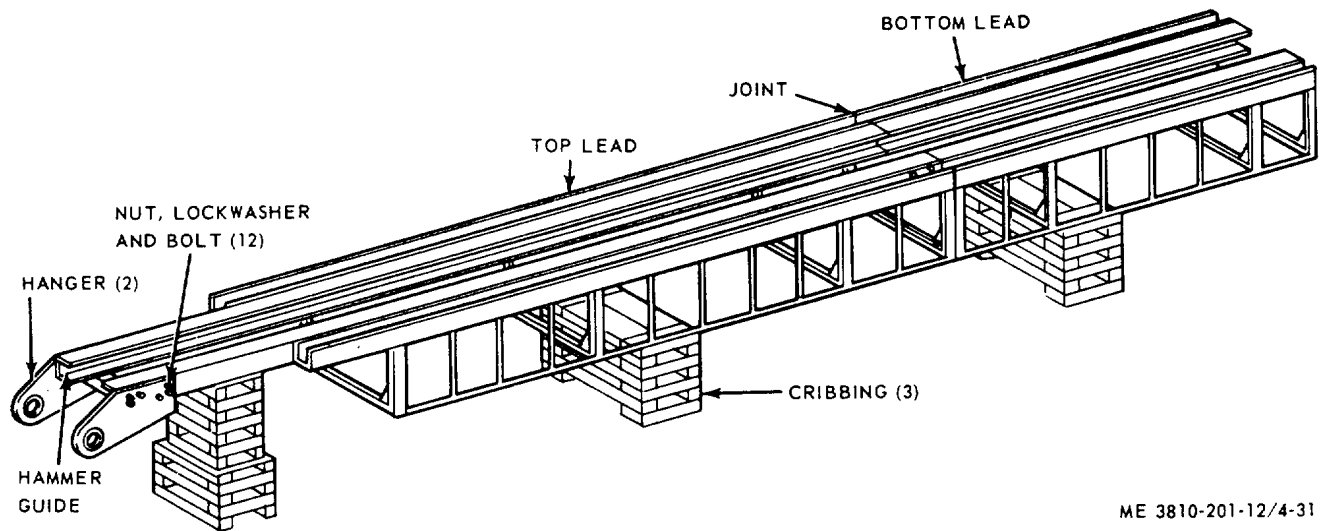

Figure 4-31. Pile leads, cribs for removal or installation.
a. Removal. Remove six nuts, lockwashers, and bolts from each hanger (fig. 4-31), then remove hangers from pile lead.
(1) Clean all parts in an approved cleaning solvent and dry thoroughly.
(2) Visually inspect hangers for cracks,
(1) Remove collar, cap, and hammer (para 4-36).
(2) Remove catwalk and adapters (para 4-37).
(3) Position cribbing for foot of pile lead (fig. 4-31) then lower boom (para 2-12b) and travel crane-shovel unit (para 2-12c) backward simultaneously, until boom point is just above the horizontal, then build cribbing to support top and center of pile leads (fig. 4-31).